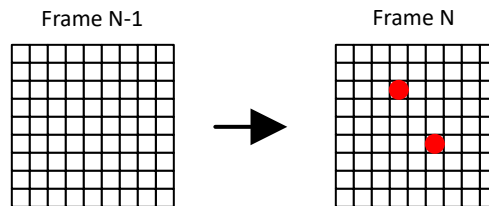

Figure 8-7. On Demand Data Refresh – Mode 1
**Mode 1:** 8-bit PWM data without VSYNC command. Data is sent out for display instantly after received. With Mode 1, users can refresh the corresponding dots' data only instead of updating the whole SRAM. It is called 'on demand data refresh', which can save the total data volume effectively. As shown in Figure 8-7, the red LED dots can be refreshed after sending the corresponding data while the others kept the same with last frame.